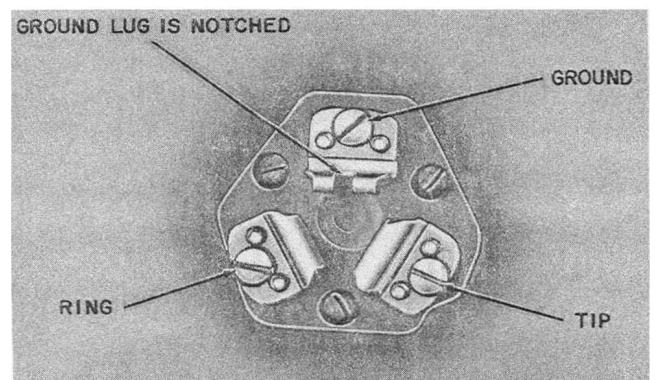

Fig. 37 — Connections for KS-8420 and KS-8421 Jacks
- (1) Arrange for a 2-11/16 inch hole at desired location.
- (2) Temporarily insert jack in hole and mark fastener holes.
- (3) Remove jack and drill fastener holes.
- (4) Connect wire as shown in Fig. 37.
- (5) Secure jack to mounting surface with four No. 8 RH brass wood screws or No. 8 RH brass machine screws.
- (1) Arrange drop wire or bridle wire and any metal conduit at desired location.
- (2) Secure the jack housing to the mounting surface using suitable fasteners.
- (3) Connect wire to the terminal block as shown in Fig. 37.
- (4) Mount terminal block to jack housing.
- (5) Install cover on housing.